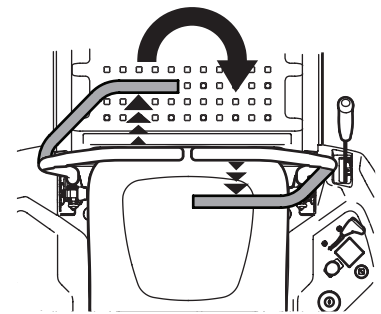

Figure 33
2. To turn clockwise, move the left lapbar drive control lever forward while simultaneously moving the right lapbar drive control lever rearward. See Figure 33.